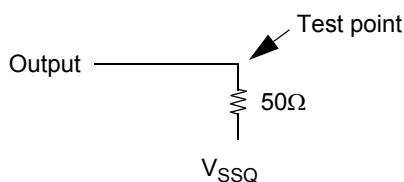

Figure 2 : Pull-up slew rate test load
a. Pull-up slew rate is characterized under the test conditions as shown in Figure 2